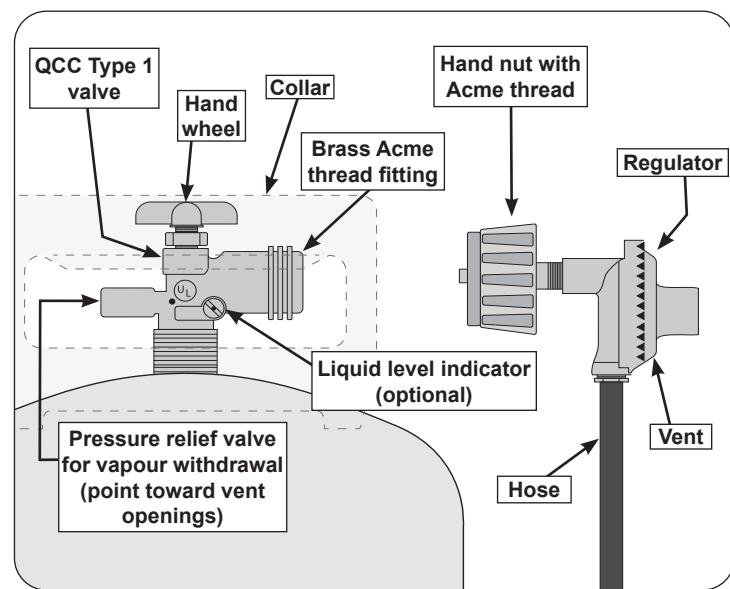

Fig. 7-1 Type I Acme thread coupler
- d. The cylinder used must include a collar to protect the cylinder valve. The cylinder supply system must be arranged for vapour withdrawal. See Fig. 7-1.
- e. When used with a cylinder, the gas supply system must be used with a pressure regulator. The pressure regulator and hose assembly (**not supplied**) used must match the specification for Type I by ANSI Z 21.58/CGA 1.6 and must comply with UL 144 as a part of the self-contained LP gas supply system (see Fig. 7-1).
To disconnect: Turn the hand nut counterclockwise until detached (Fig. 7-1).